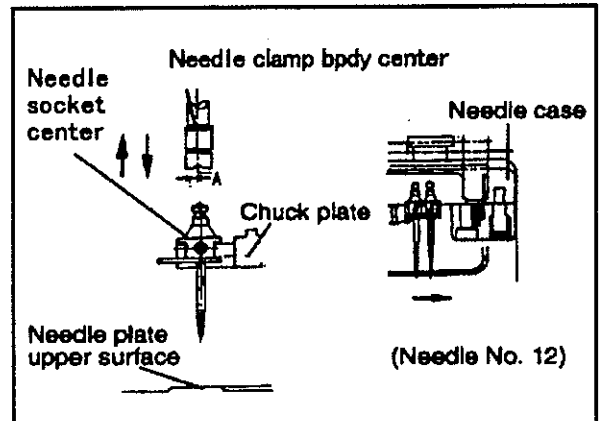

FIG.5
Rotate the hand wheel and check the weight of taking off / putting on needle clamp from / to the needle socket (Fig.5).
- (5) Rotate the hand wheel forward to the position shown in Fig.5. Clearance A between the needle clamp body center and the needle socket center must not exceed 0.4mm.